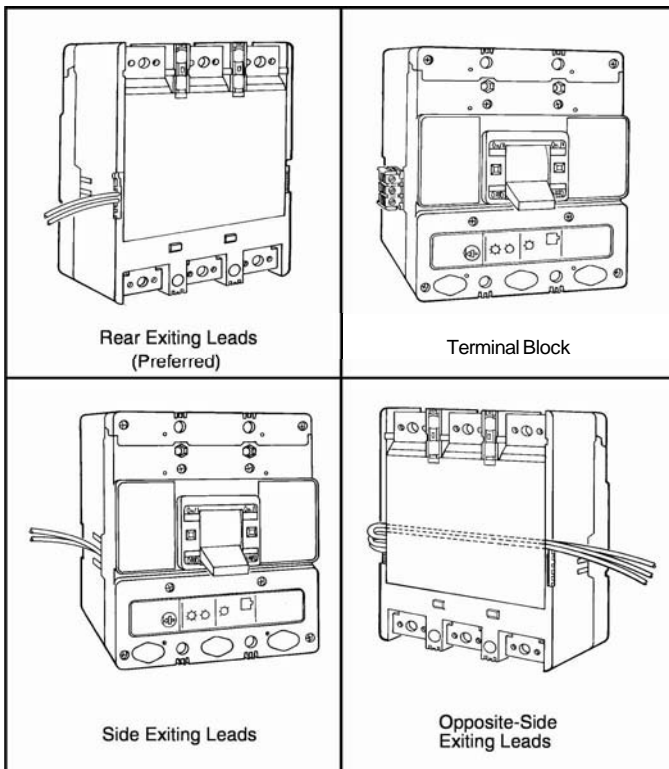

Fig. 2-2 Accessory Wiring Options
- 2.4. Route wiring to meet installation requirements. (See Fig. 2-2.):